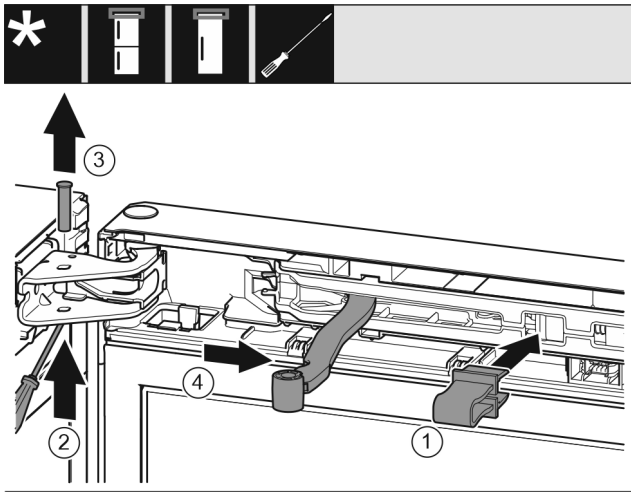

Fig. 9
- Latch safeguard Fig. 9 (1) into opening.
- Slide out the bolt Fig. 9 (2).
- Remove the bolt Fig. 9 (3) upwards.
- Turn the joint Fig. 9 (4) towards the door.